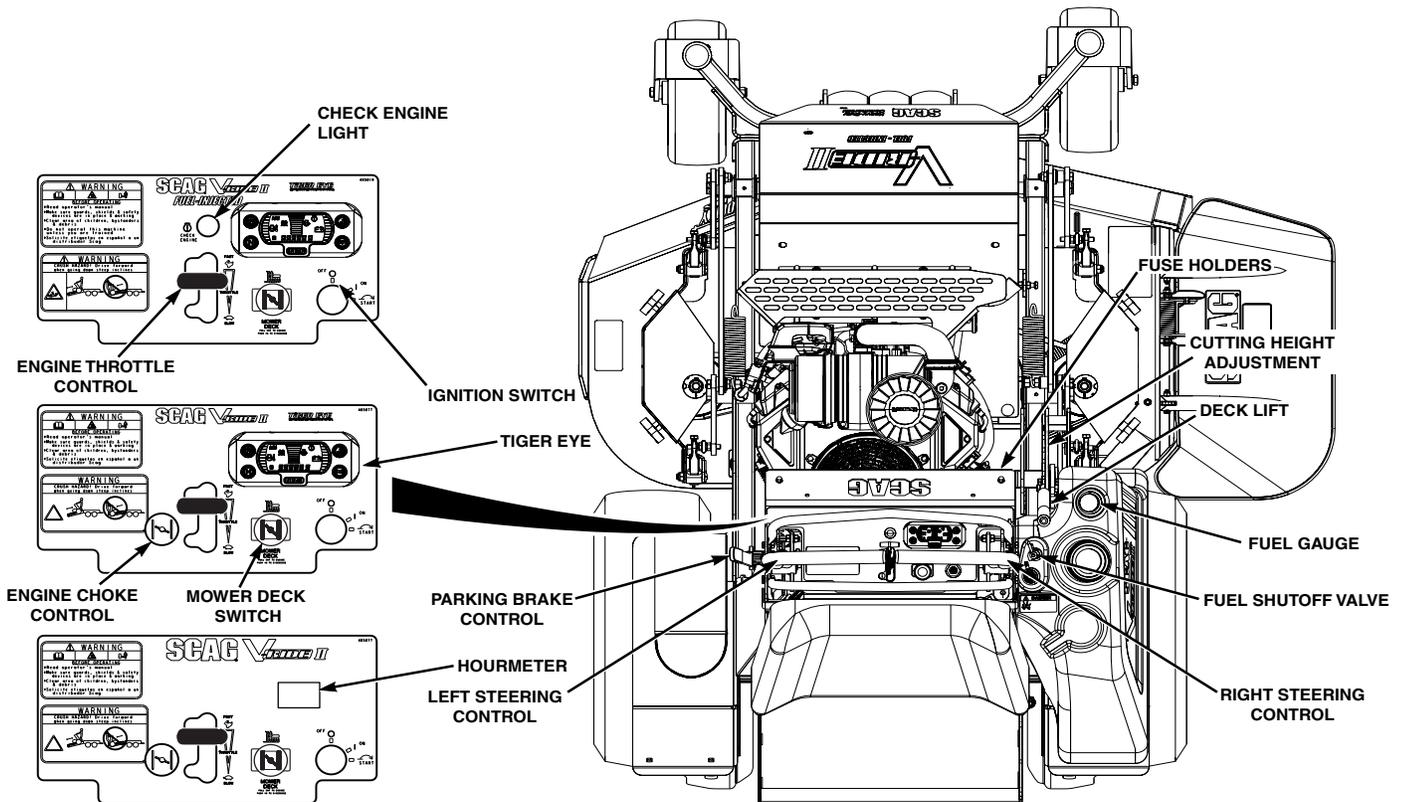

Figure 4-2. Controls and Instruments
1. Ignition Switch (Figure 4-2). For electric start models, the ignition switch is used to start the engine and has three positions; OFF, ON, and START.
2. Mower Deck Switch (Figure 4-2). Used to engage and disengage the mower drive system. Pulling up on the switch will engage the deck drive. Pushing down on the switch will disengage the deck drive.
3. Engine Choke Control (Figure 4-2). Used to start a cold engine.
4. Engine Throttle Control (Figure 4-2). Used to control the engine speed. Pushing the lever forward increases engine speed. Pulling the lever back decreases engine speed. Full back position is the IDLE position. Full forward is the cutting position.
5. Check Engine Light (Figure 4-2). Indicates the operation of the engine sensors on the Fuel Injection Engines (EFI). If a problem occurs with a sensor on the engine, the light will flash a code. See your authorized Scag Dealer for diagnosis and repair.
6. Left Steering Control (Figure 4-2). Used to control the mower's left wheel when traveling forward or reverse. See Section 4.5 for further details regarding the mower's travel controls.
7. Right Steering Control (Figure 4-2). Used to control the mower's right wheel when traveling forward or reverse. See Section 4.5 for further details regarding the mower's travel controls.
8. Parking Brake Control (Figure 4-2). Used to engage and disengage the parking brakes and lock the steering handles in neutral. Pull the lever back to engage the parking brakes. Push the lever forward to disengage the parking brakes.
9. Deck Lift Lever (Figure 4-2). Used to raise and lower the cutter deck.
10. Cutting Height Adjustment (Figure 4-2). Used to set the cutter deck at the desired cutting height.
11. Fuel Tank Gauge (Figure 4-2). Indicates the amount of fuel in the fuel tank.
12. Fuse Holders (Figure 4-2). Two 20-amp fuses protect the mower's electrical system. To replace fuses, pull fuse out of the socket and install a new fuse.
13. Hourmeter (Figure 4-2) SVR11-32/36A Only. Indicates the number of hours the engine has been operated. It operates whenever the engine is running. Has preset maintenance reminders for engine and hydraulic system oil changes. Will start flashing scheduled maintenance 2 hours before preset time and continue flashing until 2 hours after. Automatically resets
14. Fuel Shutoff Valve (Figure 4-2). Located on top of the fuel tank. Used to shut off fuel supply to the engine. Rotate the valve counter clockwise to supply fuel from the tank to the engine. Rotate the valve clockwise to shut off the fuel supply to the engine.